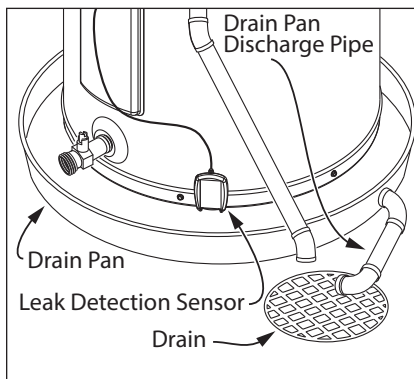

Figure 7 - A suitable drain pan piped to an adequate drain can help protect flooring from leaks and drips.
- Suitable drain pan (Figure 7 on page 8)
- Install a suitable drain pan (available at your local plumbing supplier) under the water heater (Figure 7) to catch condensation or leaks in the piping connections or tank. Most codes require, and we recommend, installing the water heater in a drain pan that is piped to an adequate drain. The drain pan must be at least 2” (50 mm) wider than the diameter of the water heater. Install the drain pan so the water level would be limited to a maximum depth of 1-3/4” (45 mm).
- In a suitable drain pan piped to an adequate floor drain or external to the building (Figure 7).